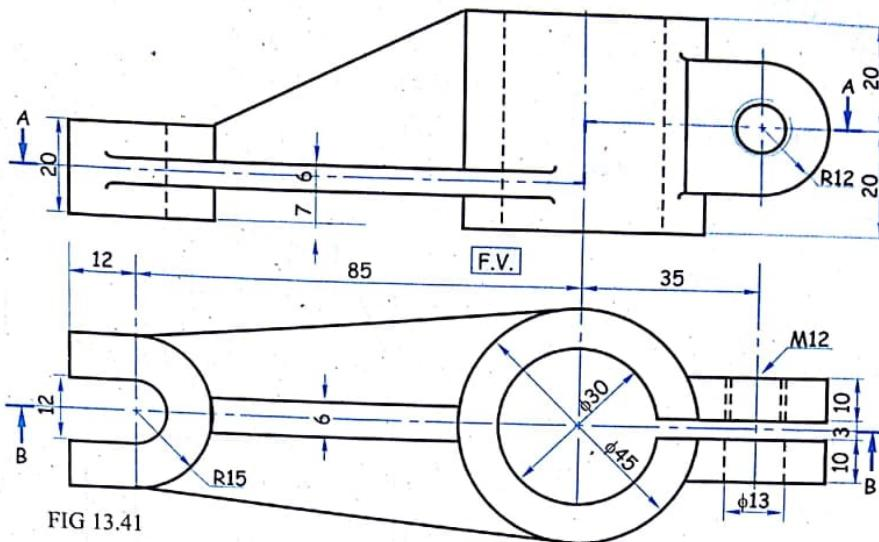

FIG 13.41
- ① Figure 13.41 shows two views of casting. Draw